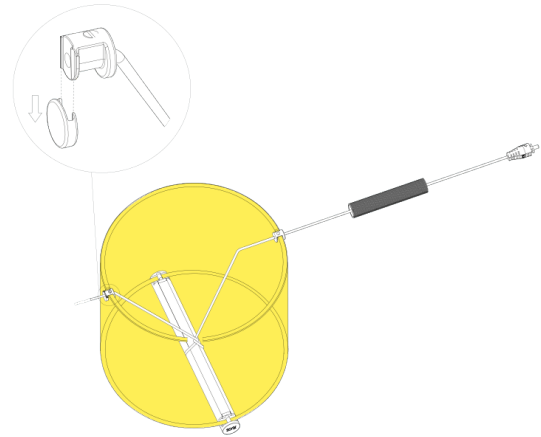

Fig.5
- Unfasten the two diagonal screws (H) that fix the driver bracket (I) to the lamp body.(Fig.5)
- Lift-up the driver bracket (I) from the lamp body.